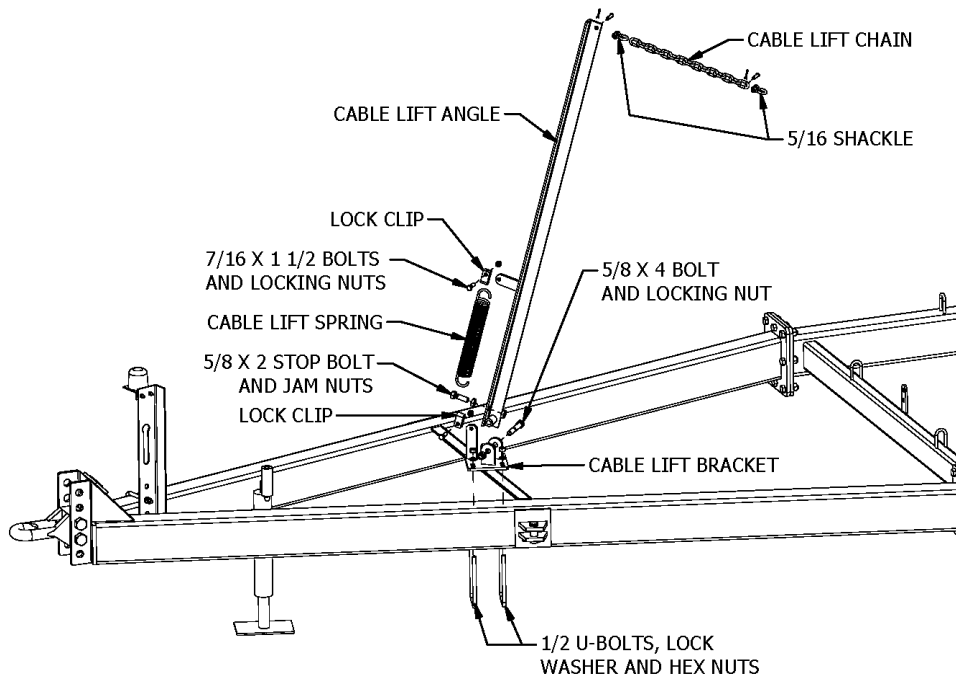

Figure 22
1. Bolt the cable lift bracket to the A-Frame just ahead of the wing cable bracket located on the side of the A-Frame. Refer to Figure 22. Use two 1/2 x 4" x 7 1/4" U-bolts, lock washers, and hex nuts. Do *not* tighten yet. Note: There is a left hand and right hand assembly.